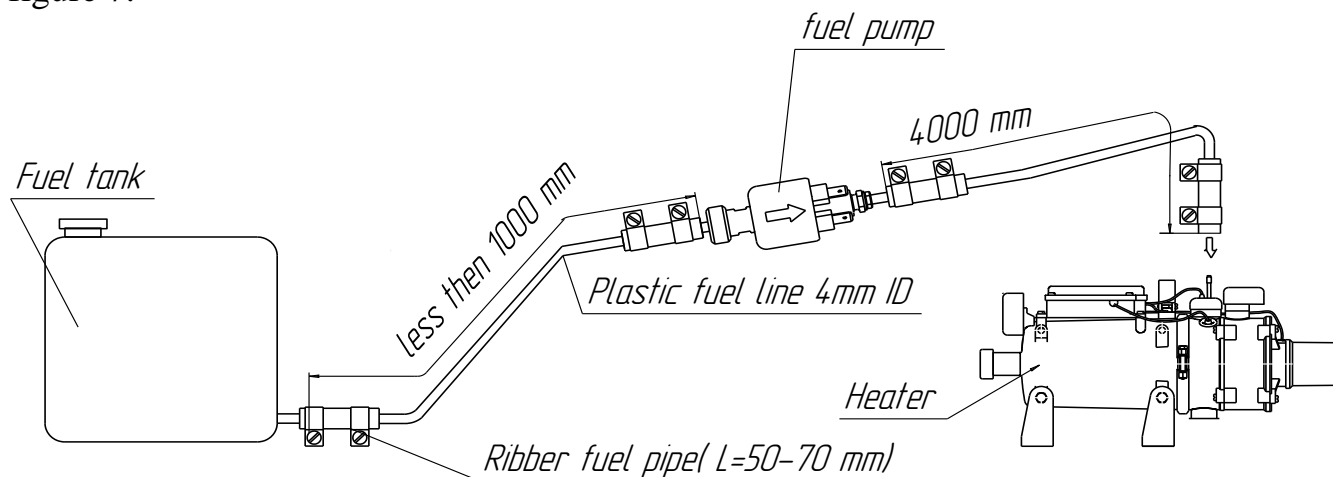

Figure 7. Diagram of connection fuel line with the pre-heater
10.6.1. It is advisable to install fuel pump close to the fuel tank and lower fuel level in the tank. To provide this recommendation it's possible to disconnect fuel pump from the heater and cut rubber pipes to pieces 70 mm length and use the as connecting pipes. It is necessary to improve the harness to the fuel pump from the control unit that is to change connector and use extender. Connect fuel pump, fuel supply line and fuel tank according to figure 7.